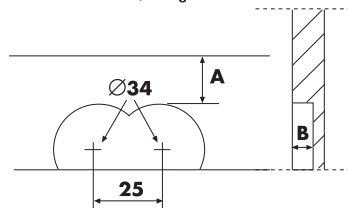
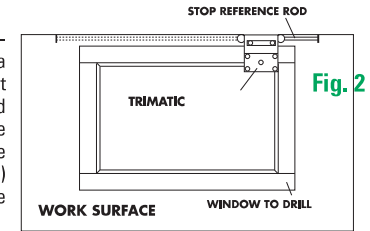

Fig. 1
Fig. 2
SISTEMI as always aware of the requirement and problems in woodworking, has created TRIMATIC 25. TRIMATIC 25 is designed for door and window frame makers who manufacture wood/wood-aluminium windows and French windows provided with single/double tilting sash or wing. TRIMATIC 25 allows drilling and manufacturing the seat for angular hinge and upper hinge with a normal pillar drill or a portable electric drill. TRIMATIC 25 is an equipment suitable for drilling holes with a distance between centres of 25 mm. for angular hinges "GU" (see Fig. 1).
Disassemble the support table (8) and position the equipment on a surface suitable for the type of work. Procure a rod with $\varnothing 10$ and length suitable for the job to be carried out and insert it in the hole (9). Position the reference stop and lock the whole assembly with the knobs (3). Fix one or more reference blocks on the work surface depending on the length of the door to be drilled. Adjust the screws (7) and (4) (See photo 1) according to the distances "A" and "B" (see Fig. 1). Finally, position the door to be drilled (see Fig. 2)